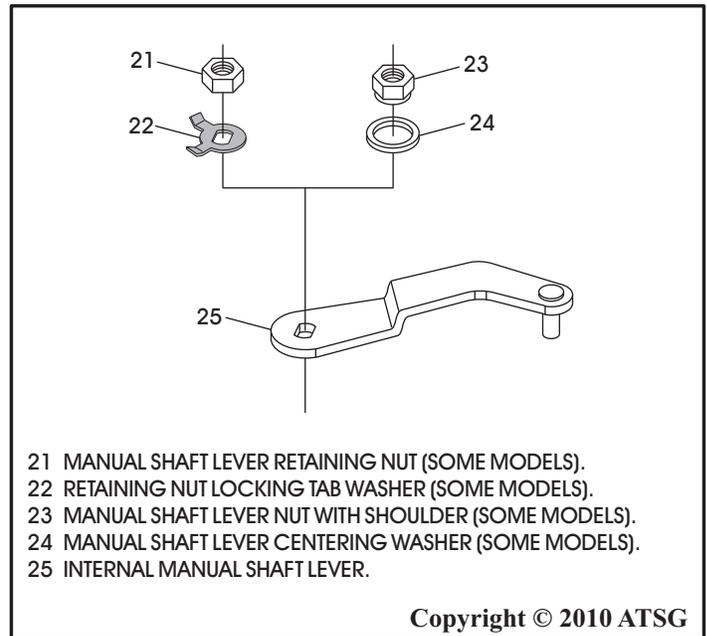

Figure 204
4. Some models use a locking tab washer and some models use a self locking nut with a centering washer below the nut. The models with the self locking nut have a shoulder on the nut that faces down toward the "centering" washer, as shown in Figure 204.